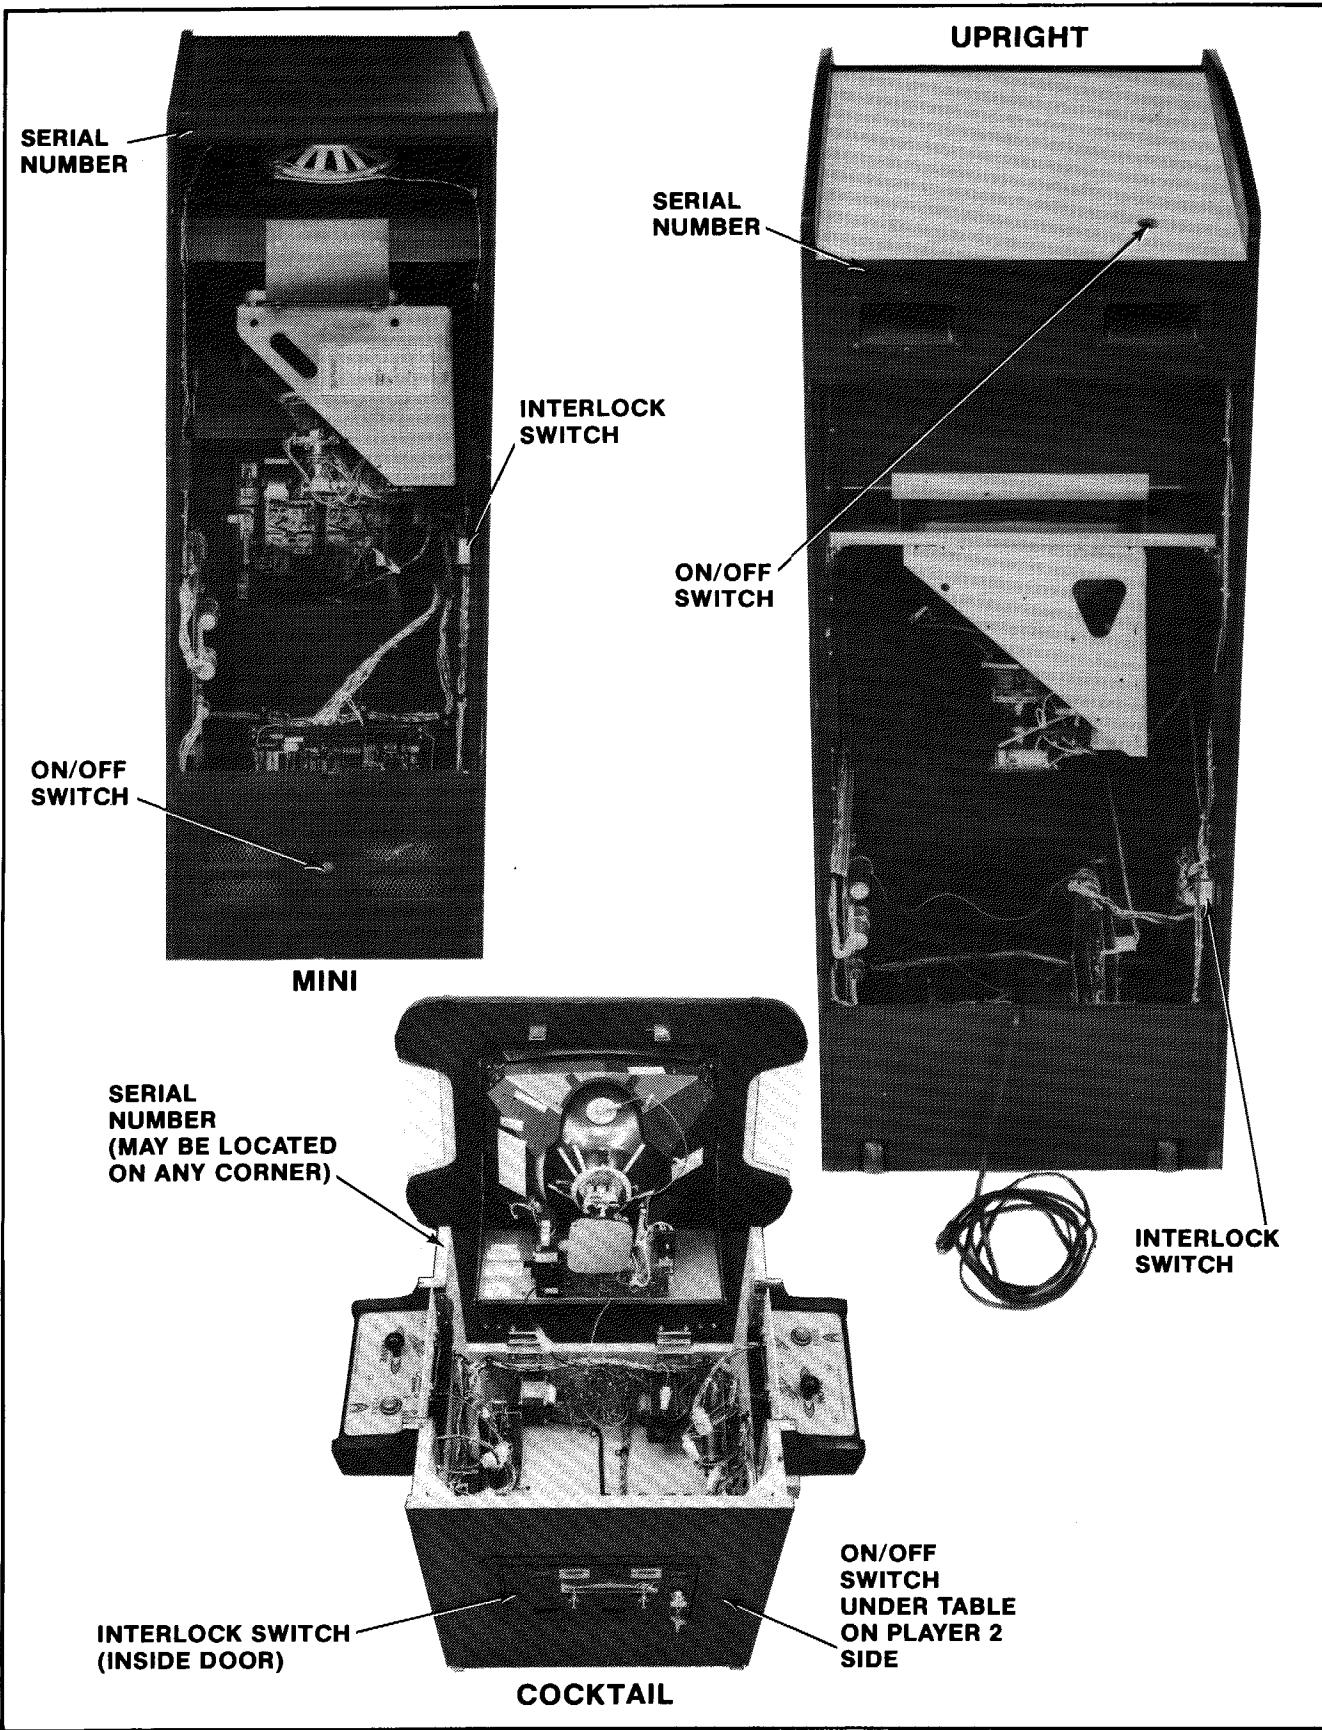

Figure 1. Location of serial number, interlock switch and ON/OFF switch.
- Note the location of the games serial number. See Figure 1.
3. Interlock and power ON/OFF switches. (See Figure 1.)
The game ON/OFF switches for all models are located as shown in Figure 1. Turn the game on and allow it to warm up a few minutes.